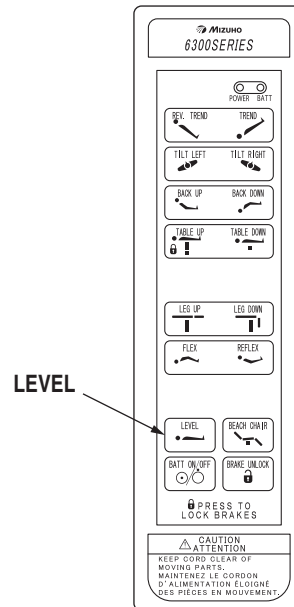

Figure 2-14. Return to Level
h. Return To Level To return the table top to a level position, press the LEVEL button (figure 2-14).